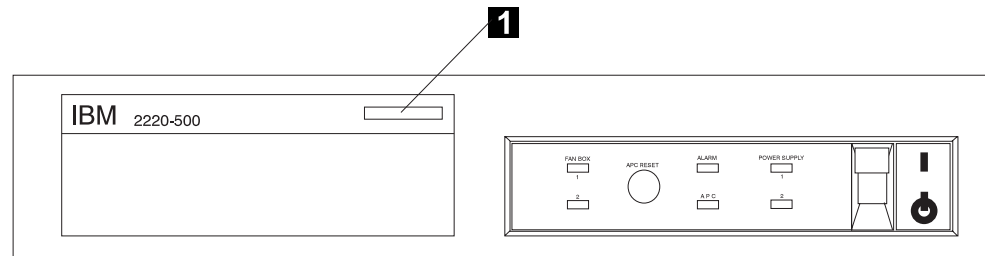

Figure 2-4. 2220 Control Panel
4. \_\_\_\_ Check that the serial number **1** stamped on the control panel is the same as on the serial number recorded on the shipping document (see Figure 2-4).